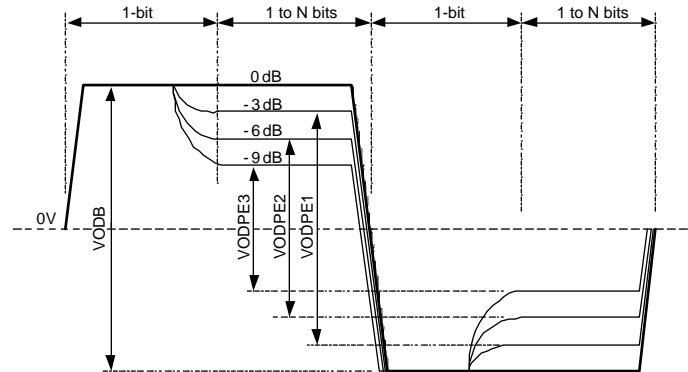

Figure 9. Driver Pre-Emphasis Differential Waveform (Showing All 4 Pre-Emphasis Steps)
The output driver has pre-emphasis (driver-side equalization) to compensate the transmission loss of the backplane that it is driving. The driver conditions the output signal such that the lower frequency and higher frequency pulses reach approximately the same amplitude at the end of the backplane and minimize the deterministic jitter caused by the amplitude disparity. The DS42MB100 provides four steps of user-selectable pre-emphasis ranging from 0, –3, –6 and –9 dB to handle different lengths of backplane. Figure 9 shows a driver pre-emphasis waveform. The pre-emphasis duration is 188 ps nominal, corresponding to 0.8 unit intervals (UI) at 4.25 Gbps. The pre-emphasis levels of switch-side and line-side can be individually programmed.